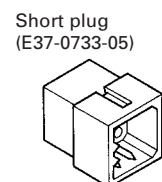

Fig. 6-1-1
1. Remove the short plug from the accessory connector (9-pin) on the rear of the transceiver (Fig. 6-1-1).